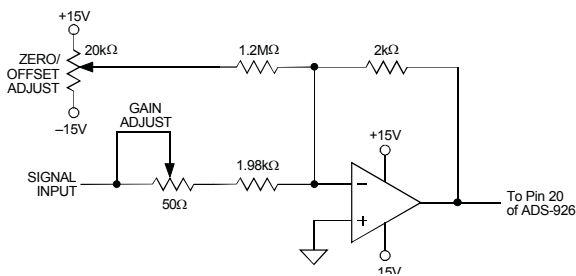

Figure 2. ADS-926 Calibration Circuit
Bypass all power supplies and the REFERENCE OUTPUT (pin 21) to ground with 4.7µF tantalum capacitors in parallel with 0.1µF ceramic capacitors. Locate the bypass capacitors as close to the unit as possible. If the user-installed offset and gain adjusting circuit shown in Figure 2 is used, also locate it as close to the ADS-926 as possible.
can be reduced to zero using the input circuit of Figure 2. When using this circuit, or any similar offset and gain-calibration hardware, make adjustments following warmup. To avoid interaction, always adjust offset before gain.
**CALIBRATION PROCEDURE (Refer to Figures 2 and 3)**
Any offset and/or gain calibration procedures should not be implemented until devices are fully warmed up. To avoid interaction, offset must be adjusted before gain. The ranges of adjustment for the circuit of Figure 2 are guaranteed to compensate for the ADS-926's initial accuracy errors and may not be able to compensate for additional system errors.
All fixed resistors in Figure 2 should be metal-film types, and multiturn potentiometers should have TCR's of 100ppm/°C or less to minimize drift with temperature.